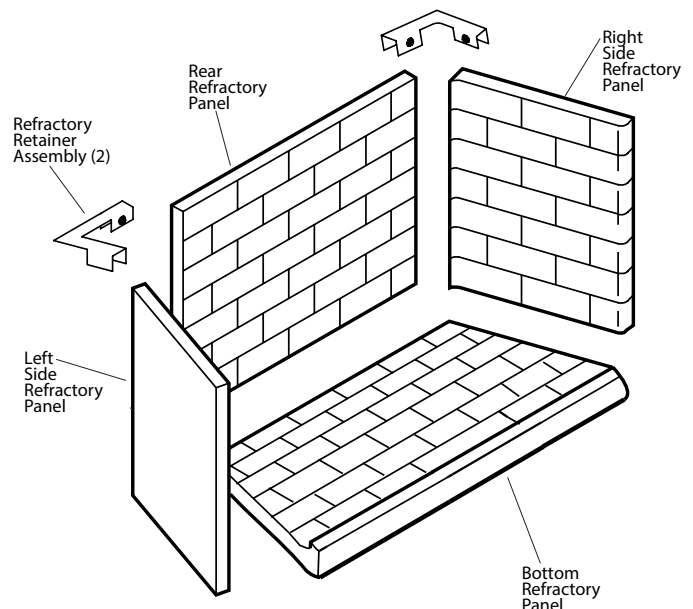

Figure 1 - Identifying Kit Components
2. Arrange Refractory panels and identify each piece in order of assembly (see Figure 1).